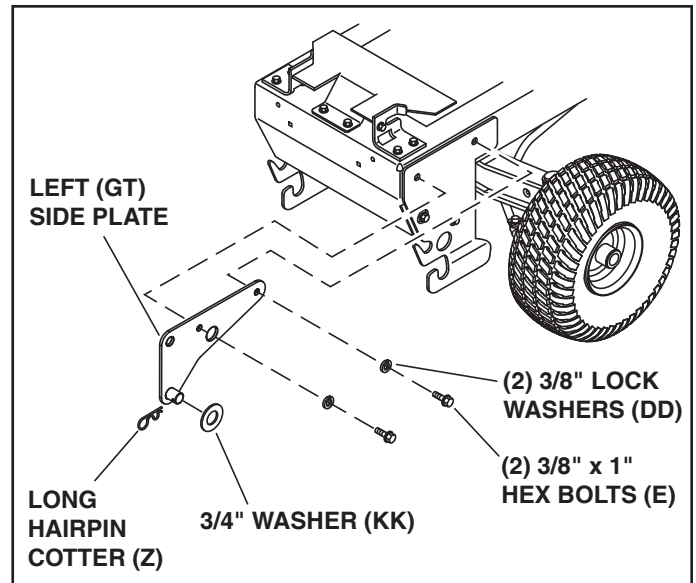

FIGURE 23
STEP 24: INSTALL SIDE PLATES (SEE FIGURE 23)
- Install the left (short) side plate with the pin to the outside using two 3/8" x 1" hex bolts (E) and 3/8" lock washers (DD). Tighten only until bolts are snug and lock washers are flattened. Repeat for the right side plate.
- Install a 3/4" washer (KK) and a long hairpin cotter (Z) to the pin in each side plate. Remove them while mounting the scoop.